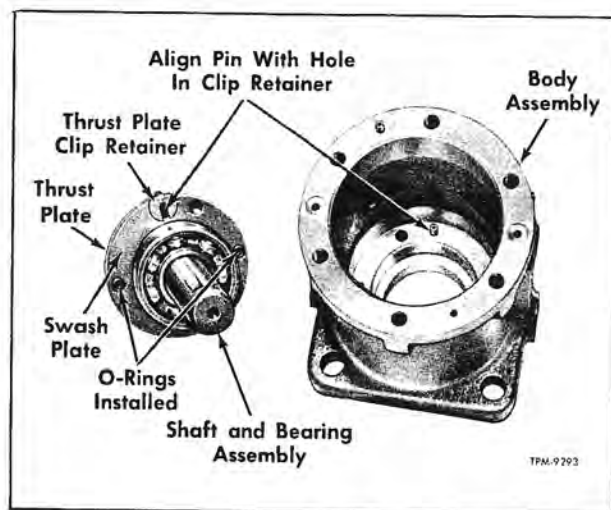

Figure 49—Installing New Bearing In End Cap
2. Thrust plate (11) can be lapped in same manner if scored or grooved.
3. If pump shaft front support bearing (44) indicates wear or excessive play, it can be readily pressed from shaft and replaced after removing snap ring (51). If original bearing is to be used at assembly it should be thoroughly washed and cleaned with solvent or kerosene. Secure reinstalled bearing with snap ring (51).
4. If shaft rear bearing inner and outer race (3) are worn, replace bearing assembly by pulling old bearing outer race from end cap and pressing in a new bearing outer race in manner shown in figure 49.